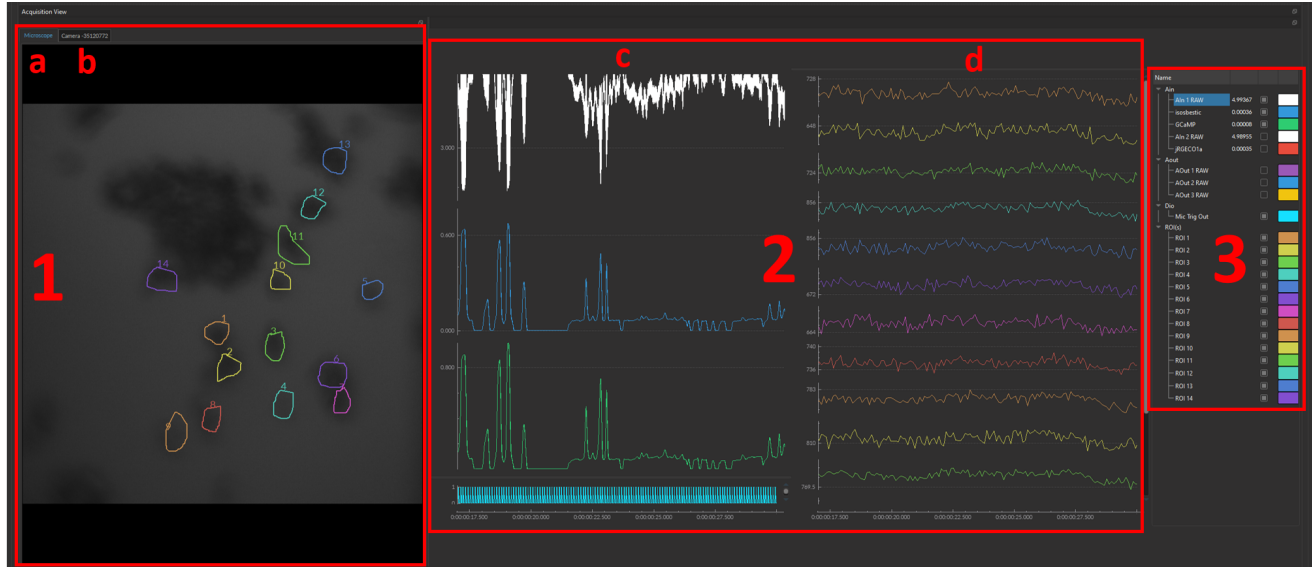

Figure 16.9: Acquisition View
Thus, depending on what type of channels are active, the interface can look drastically different. Nonetheless, there are a few common elements that are typically displayed in the **Acquisition View** (Fig. 16.9), which will be treated in the following sections:
1. The **Video View** (Fig. 16.9, 3) **only available upon addition of either **Camera** or **Microscope** channels**
- a) Microscope View (Fig. 16.9, a) - Section 16.4.4
- b) Camera View (Fig. 16.9, b) - Section 16.4.3
2. The **Graph View** (Fig. 16.9, 2) - Section 16.4.1.
- c) Analog & Digital Inputs and Outputs (Fig. 16.9, c)
- d) ROI(s) View (Fig. 16.9, d) - **only available upon **Microscope** channel addition**
3. The **Graph List** (Fig. 16.9, 3) - Section 16.4.2.
The **Graph List** (Fig. 16.9, 3) always accompanies the **Graph View** (Fig. 16.9, 2), but can be hidden/shown, as any of the different channels from the list, by right clicking on any of the channel name shown in the **Graph View(s)** (Fig. 16.16).